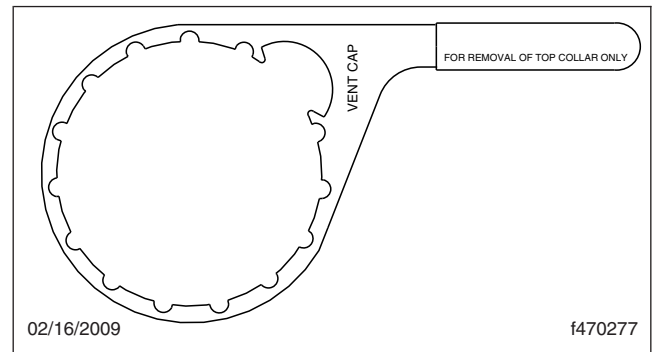

Fig. 3, DAVCO Collar Wrench
5. Using a DAVCO Collar Wrench, shown in **Fig. 3**, remove the clear cover and collar.
5. Using a DAVCO Collar Wrench, shown in Fig. 3, remove the clear cover and collar.